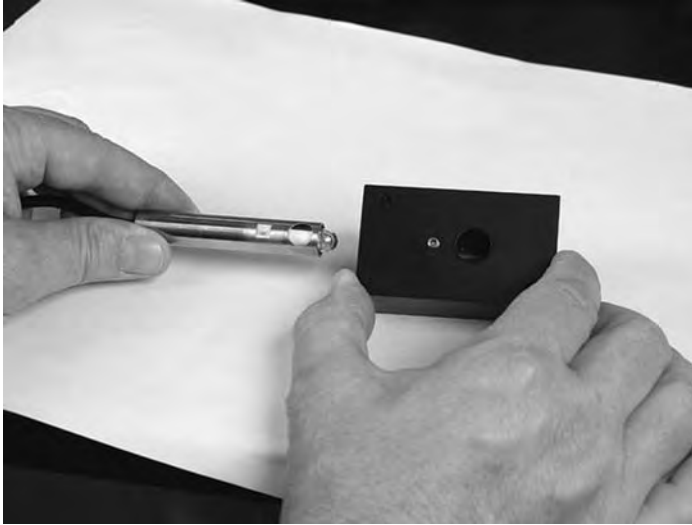

Fig. 13.17. Sliding the replacement UV lamp out of the carrier.
6. Slide the UV lamp out of its carrier (Figure 13.17).